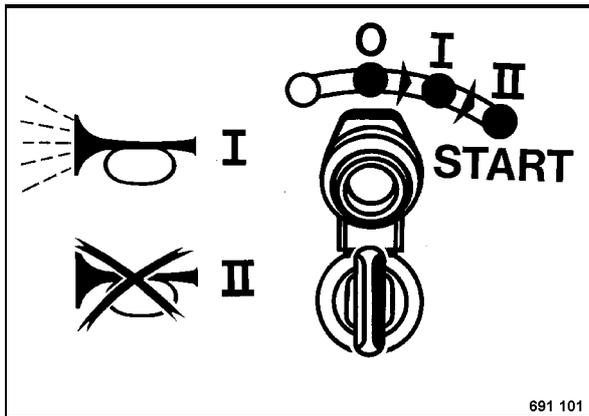

Fig. 32
- Turn the ignition key (Fig. 32) to position "I". The warning buzzer sounds.